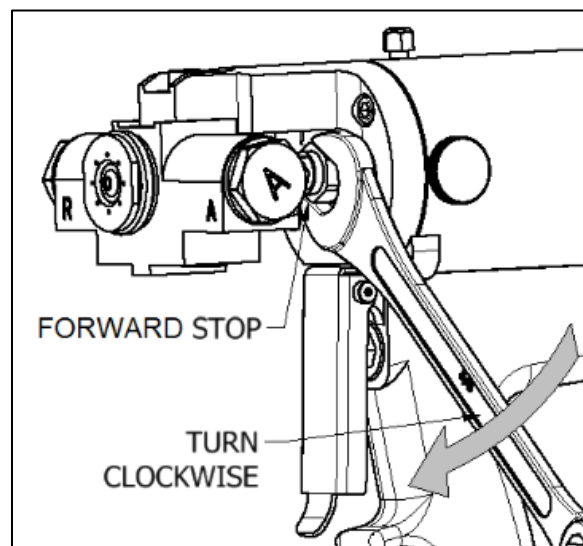

Figure 9: Turn Forward Stop Clockwise
12. Turn the **Forward Stop** clockwise (as viewed from the front of the gun) approximately 1-2 turns (see Figure 9).